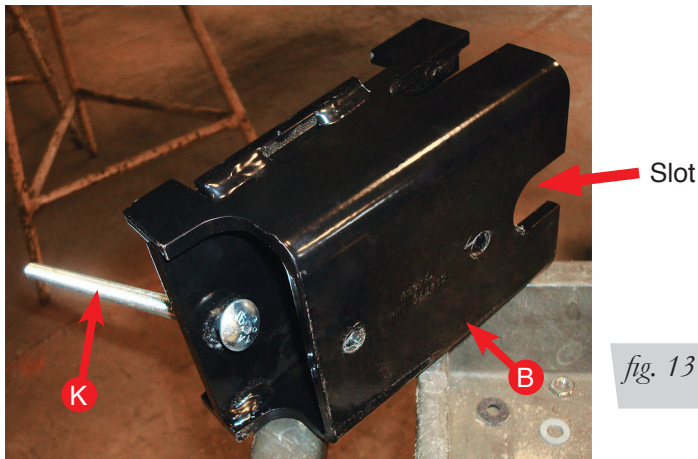

fig. 13
5. Insert the 3/8-16 X 7" carriage bolts (K) through the lower bracket (B) hole that is opposite of the slot shown in figure 13. Repeat for both lower brackets.